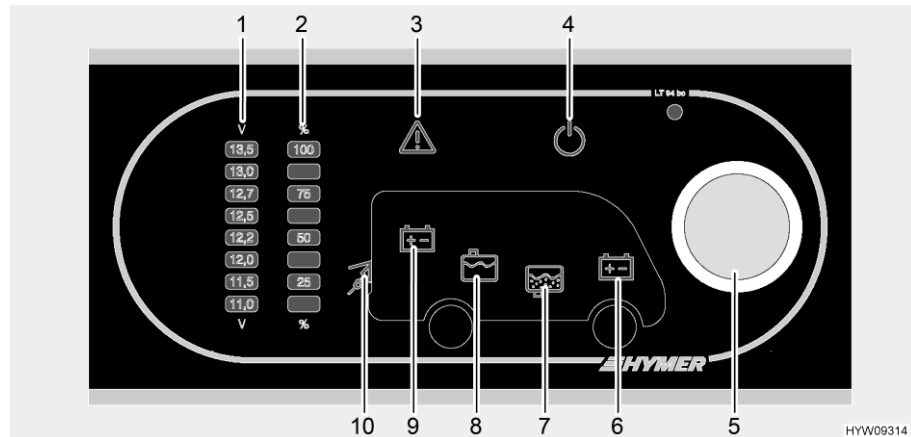

Fig. 144 Panel (LT 94)
The rotary knob (Fig. 144,5) switches the panel and the 12 V power supply to the living area on and off.
- Press the rotary knob (Fig. 144,5): The 12 V living area power supply is switched on. The 12 V indicator lamp (Fig. 144,4) lights up.
- Press the rotary knob (Fig. 144,5): The 12 V living area power supply is switched off. The 12 V indicator lamp (Fig. 144,4) goes off.
Use the rotary knob (Fig. 144,5) for reading the voltage of the living area battery as well as that of the starter battery. The voltage is displayed on the indicator scale for battery voltage (Fig. 144,1).
- Turn the rotary knob (Fig. 144,5) until the symbol for the desired battery lights up.
Living area battery voltage is displayed (Fig. 144,9)
Starter battery voltage is displayed (Fig. 144,6)
- Read the voltage from the indicator scale for battery voltage (Fig. 144,1).
Use the rotary knob (Fig. 144,5) for checking the fill level of the water tank or the waste water tank. The fill level is displayed on the indicator scale for the tank fill level (Fig. 144,2).
- Turn the rotary knob (Fig. 144,5) until the symbol for the desired tank lights up.
The level of the water tank is displayed (Fig. 144,8)
The level of the waste water tank is displayed (Fig. 144,7)
- Read the level from the indicator scale for the tank fill level (Fig. 144,2).
The Alarm warning light (Fig. 144,3) flashes if set limit values are exceeded or fallen below.
The Alarm warning light (Fig. 144,3) flashes if the battery voltage falls below 11 V. If the 12 V power supply is switched on, the relevant battery symbol (Fig. 144,6 or 9) also lights up and "11.0" starts flashing on the indicator scale for battery voltage (Fig. 144,1). Danger of total discharge.
The Alarm warning light (Fig. 144,3) starts to flash and the corresponding tank symbol (Fig. 144,7 or 8) lights up as soon as the water tank is empty or the waste water tank is full.
The 230 V indicator lamp (Fig. 144,10) illuminates whenever line voltage is available at the transformer/rectifier input.